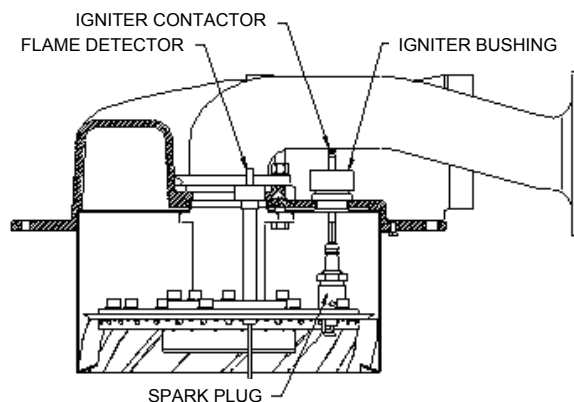

Figure 7.2
4. Insert the igniter removal tool into the burner shell, where the igniter bushing was removed. Fit the hexagonal end of the tool over the igniter. (See Fig. 7.2) Unscrew the igniter from the burner head. Remove the igniter from the burner shell, by grasping the contact end of the igniter.
3. Disconnect the flame detector lead wire. Unscrew the flame detector and remove it. (See Fig 7.2)